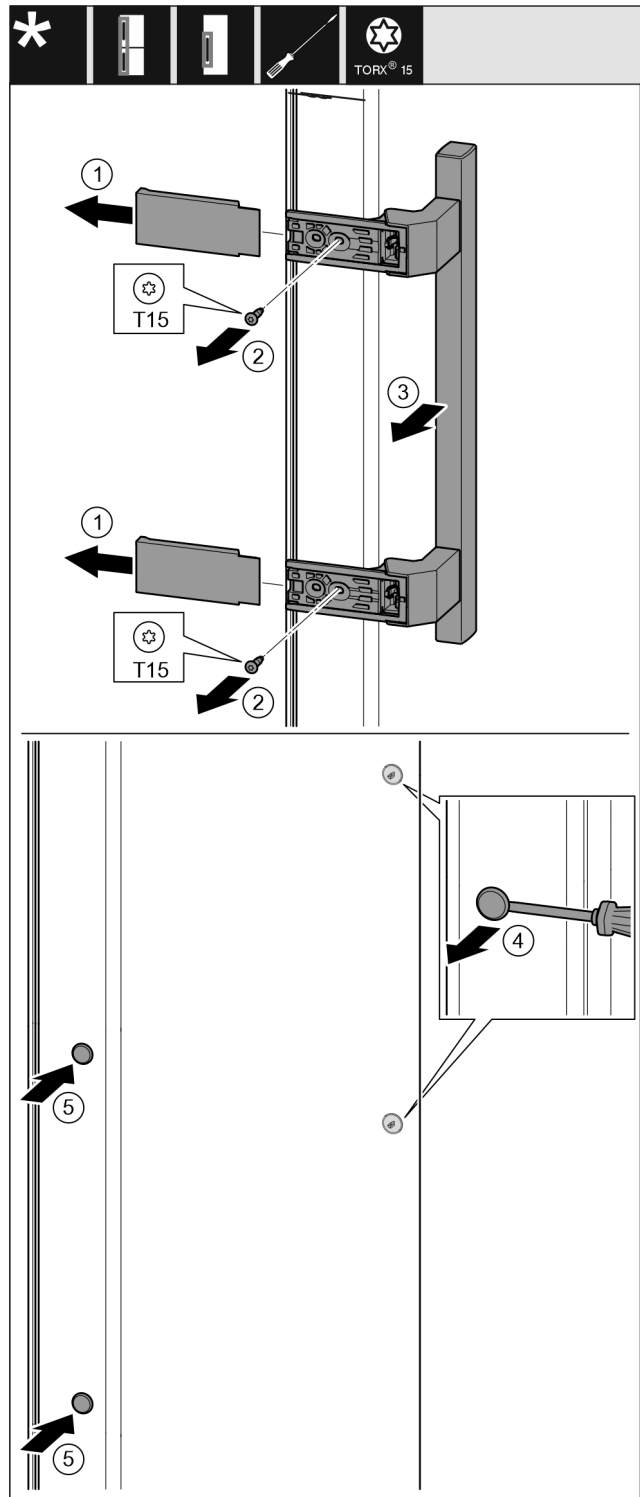

Fig. 13
- ▶ Pull off the cover. *Fig. 13 (1)*
- ▶ Remove the screws with the T15 screwdriver. *Fig. 13 (2)*
- ▶ Remove the handle. *Fig. 13 (3)*
- ▶ Carefully lift up the side plugs with a slotted screwdriver and pull them out. *Fig. 13 (4)*
- ▶ Insert the plugs again on the other side. *Fig. 13 (5)*